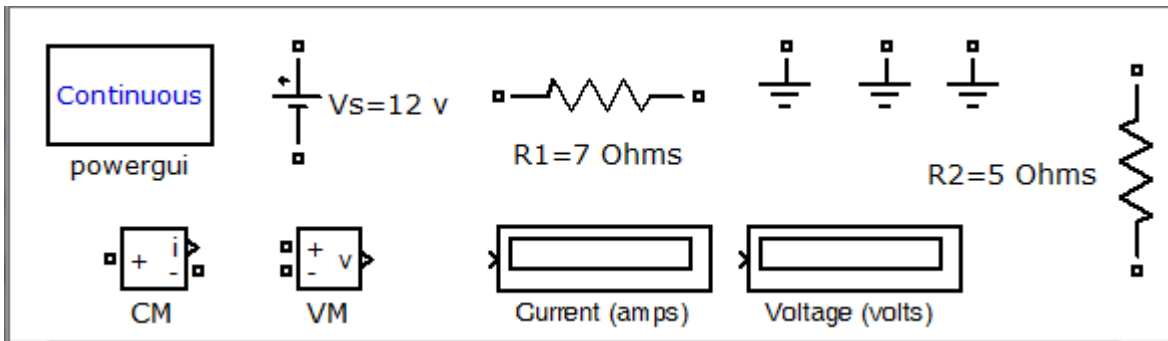

Figure C.7. Model with blocks renamed
We need two resistors for our model and thus we copy and paste the resistor into the model, using the **Block Parameters** window we change its value to 5Ω , and from the **Format** drop window we click the **Rotate** block option and we rotate it **clockwise**. We also need two **Display** blocks, one for the current measurement and the second for the voltage measurement and thus we copy and paste the **Display** block into the model. We also copy and paste twice the **Ground** block and the model is now as shown in Figure C.7 where we also have renamed the blocks to shorter names.
From Figure C.7 above, we observe that both terminals of the voltage source and the resistors are shown with small square () ports, the left ports of the CM (Current Measurement), and VM (Voltage Measurement) are also shown with ports, but the terminals on the right are shown with the **Simulink** output ports as >. The rules for the **SimPowerSystems** electrical terminal ports and connection lines are as follows:
3. If it is necessary to connect Simulink ports (>) to SimPowerSystems ports (), we can use SimPowerSystems blocks that contain both Simulink and SimPowerSystems ports such as the Current Measurement (CM) block and the Voltage Measurement (VM) block shown in Figure C.7.